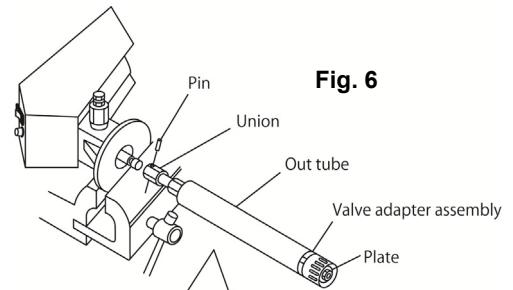

Fig. 6
- 4) Fix the pump assembly on vise. (Fig. 6)
- 5) Set a spanner on the valve adapter assembly and unscrew it. The suction tube can be pulled out from the motor. Continue to pull it out until it touches the plate. This will expose the union connecting to the Connecting Rod of the motor. Pull out the pin and unscrew the union, and the lower pump can be separated from the motor. Pull out the out tube. (Fig. 6)